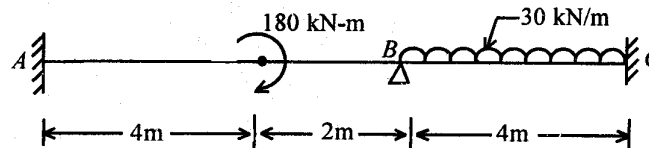

Fig. 1
- (b) A continuous beam *ABC* fixed at the ends is loaded as shown in *Fig. 1*. Find the reaction and support moments. Also, draw BM and SF diagrams. 15